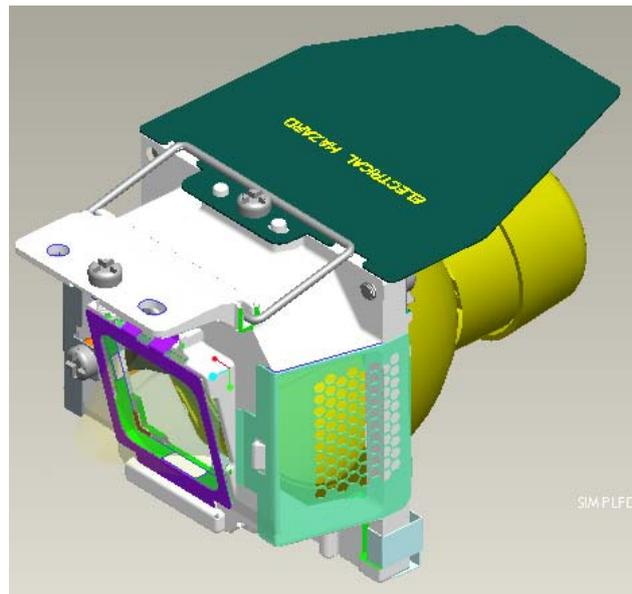

Fig.1-18
- viii. Assemble Handle Bar to the HLD Lamp and fixed on the screw (Fig. 1-18).